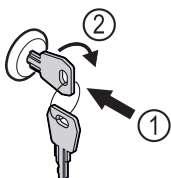

Fig. 159 Example illustration
- Insert key Fig. 159 (1).
- Turn key clockwise by 90° Fig. 159 (2).